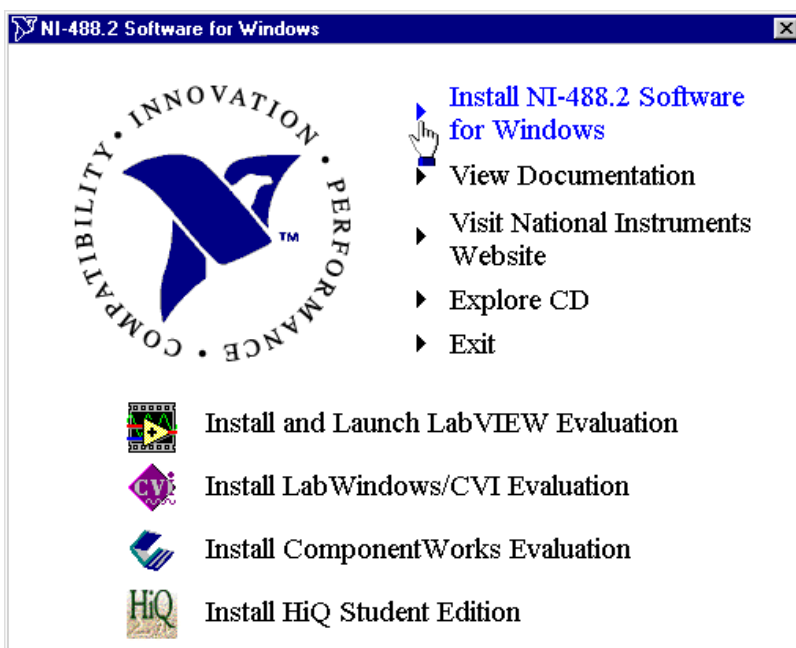

Figure 2-1. NI-488.2 Software for Windows CD Autorun Screen
2. When the NI-488.2 Software for Windows screen appears, click the **Install NI-488.2 Software for Windows** item, as shown in Figure 2-1.